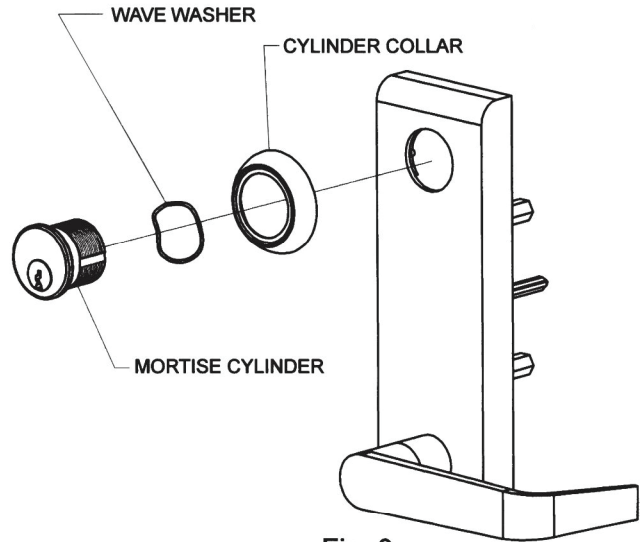

Fig. 3
- a. Slide wave washer and cylinder collar onto mortise cylinder body (see Fig. 3).